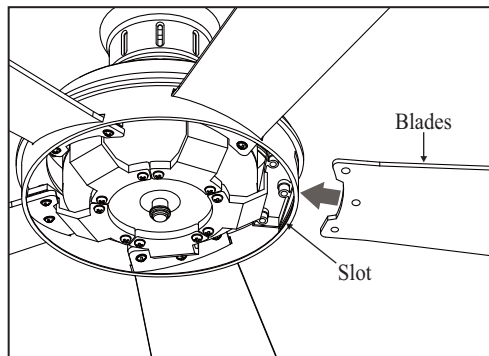
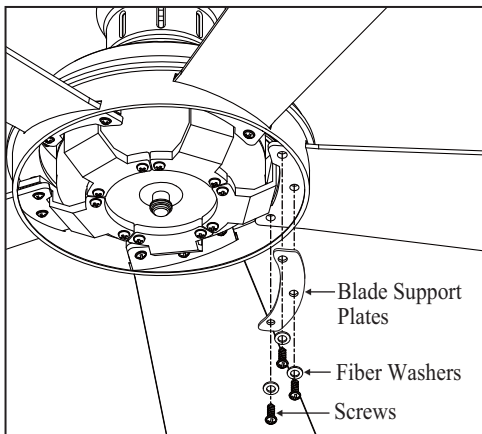

Figure 13
Figure 14
1. Insert the blade through the blade slot in the decorative housing (Figure 13). Align the holes in blade and blade arm, place the blade support plate on blade as showing in Figure 14, making sure the holes are also aligned and secure with fiber washers and screws provided.